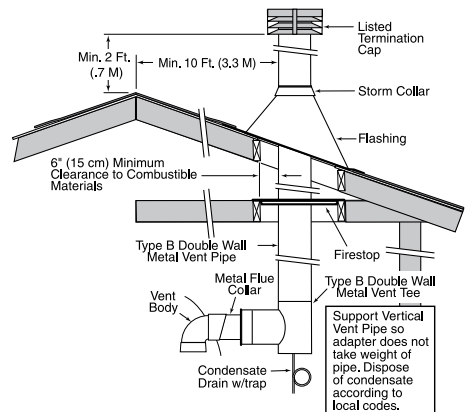

Figure 14. – Typical Metal Vent Pipe Installation (Vertical Venting)
6. Vent Termination – Vertical (See Figures 14, 15 and 16), for height of vent termination above the roof. Use an "Approved" vent terminal specified by local and national codes and your manufacturer's instructions. A roof termination must be vertical.